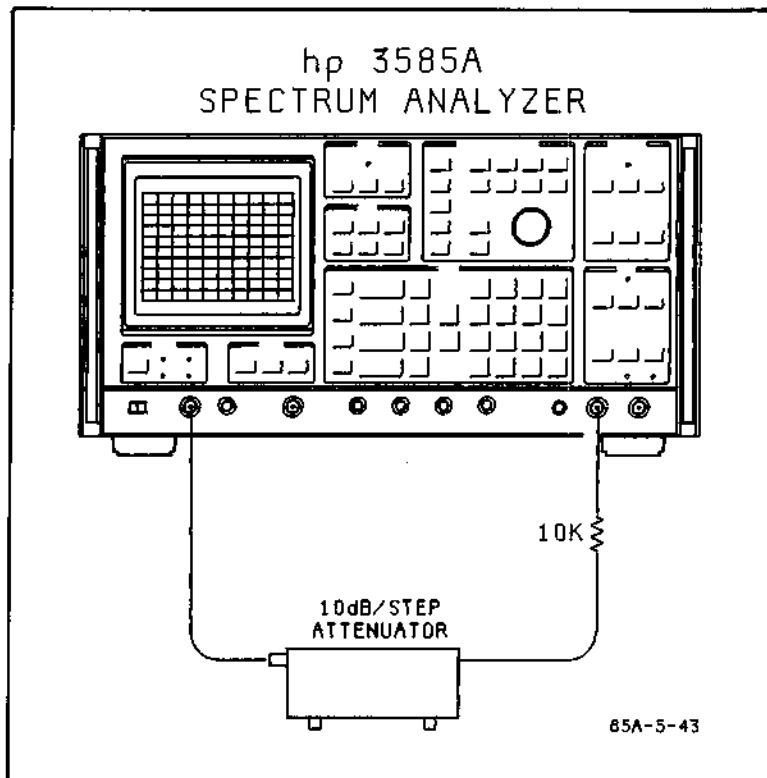

Figure 5-43. 1MΩ Input Capacitance Adjustment Set-Up
- Replace the 50Ω termination with a 10kΩ series resistor ($\pm 1\%$, 1/8W, -hp- Part Number 0757-0442). This resistor should be connected as shown in Figure 5-43. Use short clip leads to connect the resistor to the attenuator and the 3585A 1MΩ input.